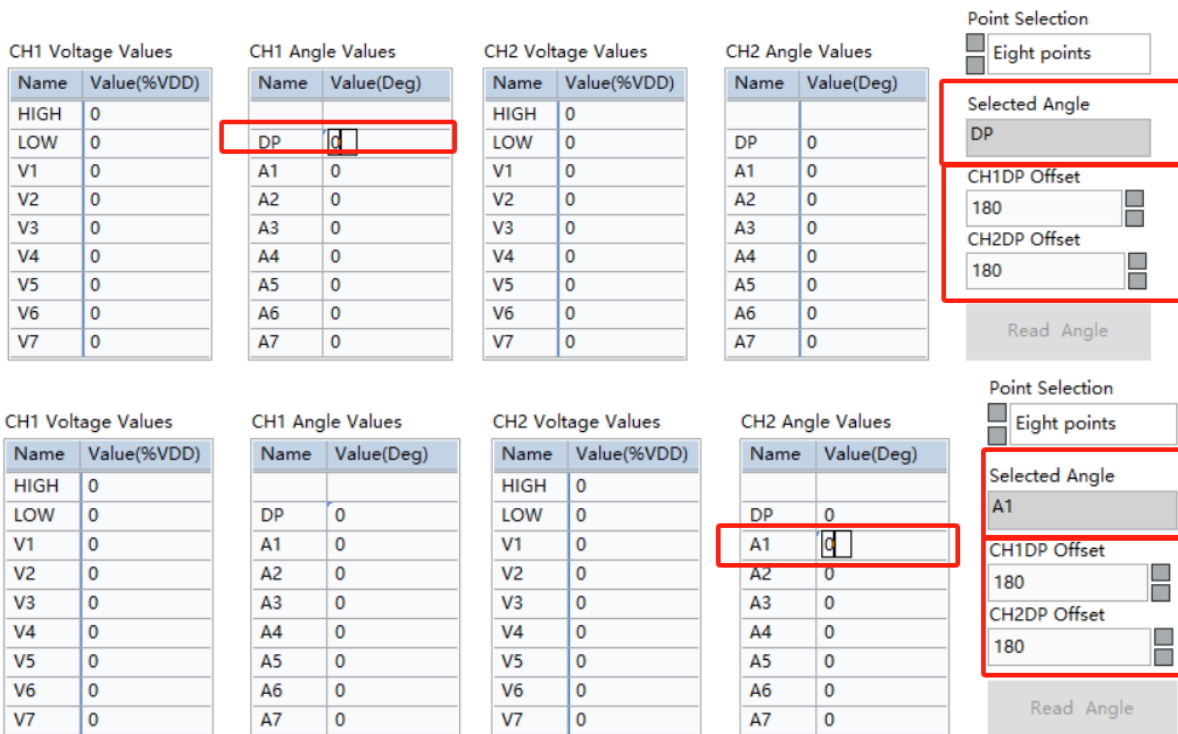

Figure 4.2.14 Reading Angle
- Clicking on the input box corresponding to "CH1 Angle Value" will display the current "Selected Angle Name" on the right side. In Figure 4.2.14, when the cursor is in the "DP" point box corresponding to "CH1 Angle Value," the right side will show that the currently selected angle is "DP." Clicking the "Read as Selected Angle" button at this point will prompt the programmer to read back the current angle value of the chip, add the corresponding "DP offset" value, and fill it into the "DP" box for CH1 Angle Value. Similarly, you can perform angle reading operations for "A1," "A2," and so on. Note: Only when the active cursor is within the options corresponding to "CH1 Angle Value" will this option be